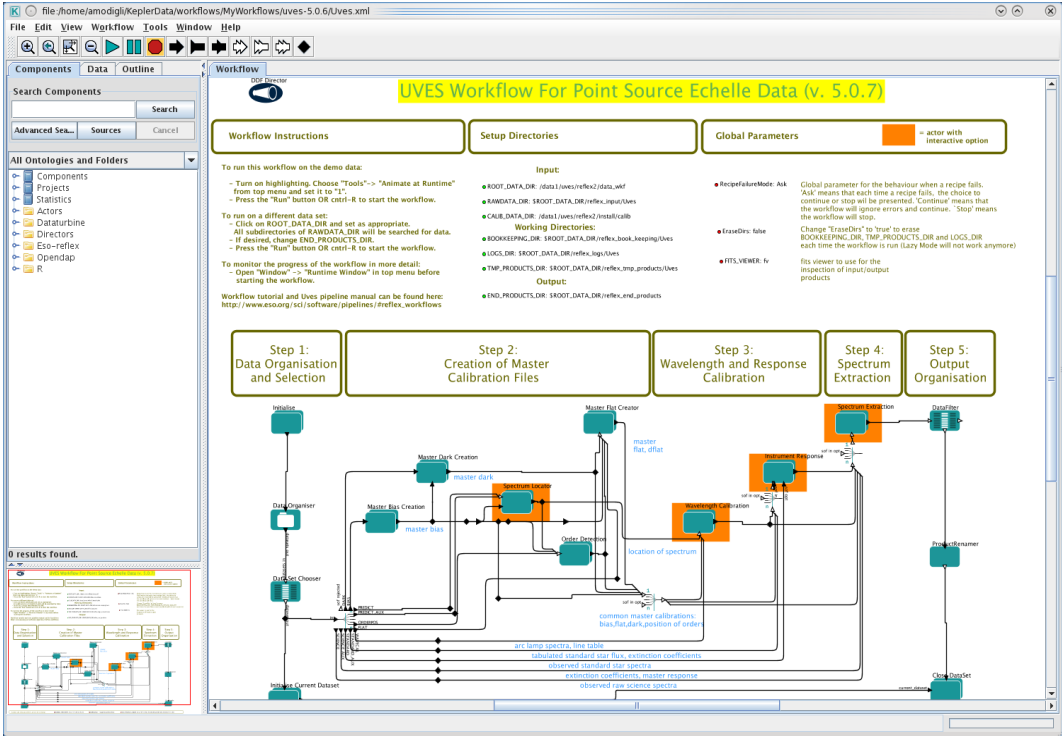

Figure 4.0.2: *UVES workflow general layout.*
2. Now open the UVES workflow by clicking on File -> Open, selecting the file `uves-5.0.7/Uves.xml` in the file browser, and clicking Open (this file is located in `<install_dir>/share/reflex/workflows/uves-5.0.7/Uves.xml` in the pipeline installation). You will be presented with the workflow canvas shown in Figure 4.0.2. Note that the workflow will appear as a canvas in a new window.
The UVES workflow canvas is organised into a number of areas (see Figure 4.0.2). From top-left to top-right you will find general workflow instructions, directory parameters, and global parameters. In the middle row you will find five green boxes describing the workflow general processing steps in order from left to right, and below this the workflow actors themselves are organised as per the workflow general steps.
The workflow canvas displays a number of parameters that may be set by the user (see Figure 4.0.2). Under “Setup Directories” the user is only required to set the `ROOT_DATA_DIR` to the working directory for the DataSet(s) to be reduced, which, by default, is set to the directory containing the demo data. Raw data should be stored in a subdirectory of `ROOT_DATA_DIR`, defined by the parameter `RAWDATA_DIR`, which is recursively scanned by the `Data Organiser` actor for input raw data. The directory `CALIB_DATA_DIR`, which is within the pipeline installation directory, is also scanned by the `Data Organiser` actor to find any static calibrations that may be missing in your DataSet(s). If required, the user may edit the directories `BOOKKEEPING_DIR`, `LOGS_DIR`, `TMP_PRODUCTS_DIR`, and `END_PRODUCTS_DIR`, which correspond to the directories where book-keeping files, logs, temporary products and end products are stored, respectively (see the Reflex User Manual for further details; Forchì 2012).